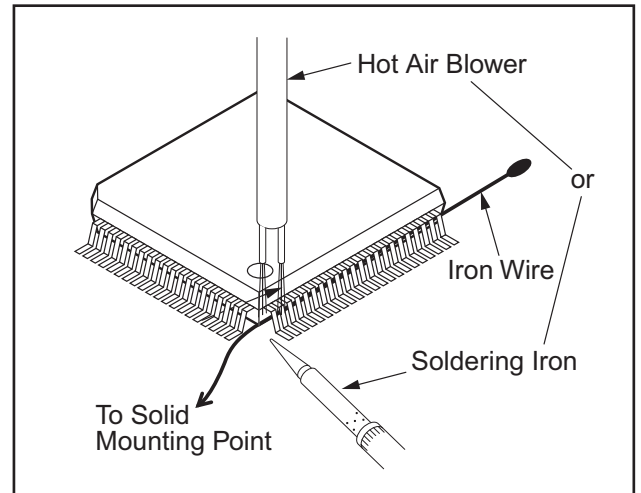

Fig.2-5
- (2) Affix the wire to a workbench or solid mounting point, as shown in Fig.2-5.
- (3) While heating the pins using a fine tip soldering iron or hot air blower, pull up the wire as the solder melts so as to lift the IC leads from the PWB contact pads as shown in Fig.2-5.